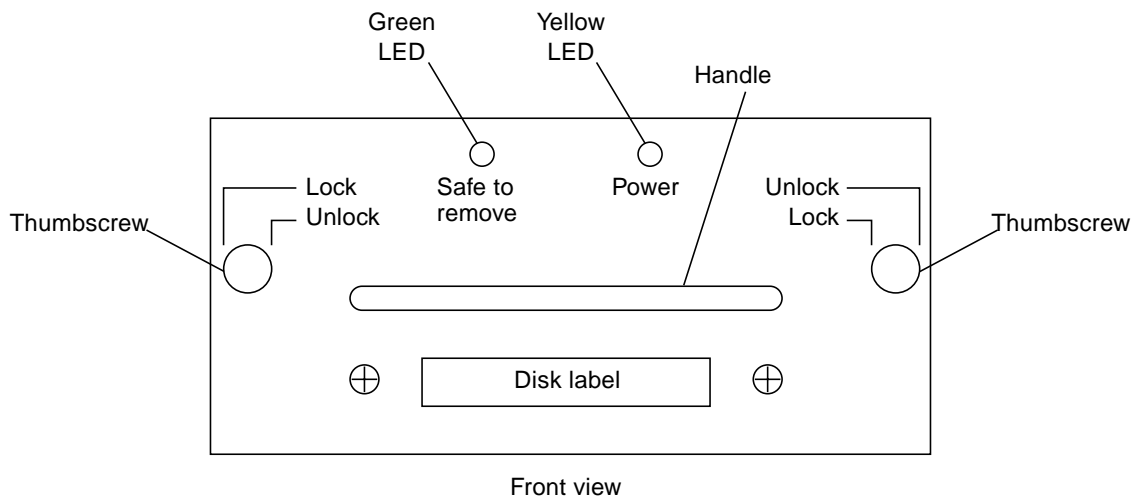

FIGURE 6-7 Disk Drive, Faceplate Type
3. **Each drive faceplate has locking/unlocking thumbscrews (see FIGURE 6-7). Turn the thumbscrews counterclockwise until they release. The disk drive spins down slowly.**